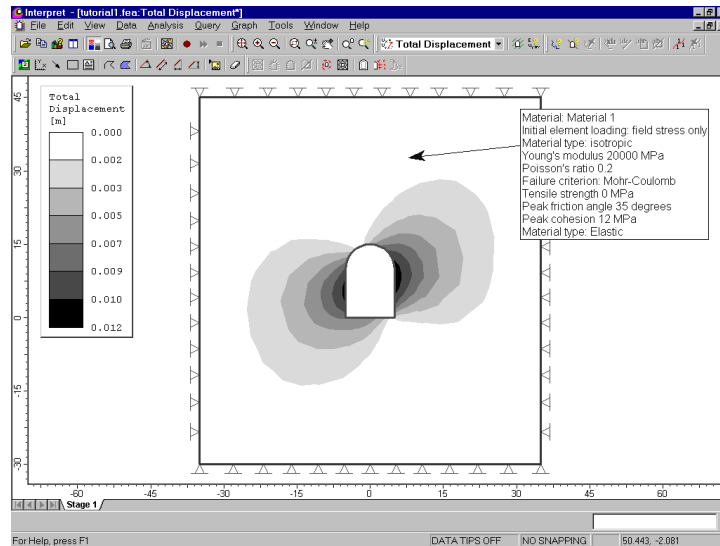

Figure 1-7: Auto-text and arrow added to view.
3. Now select OK. The text is added to the view, and your screen should look similar to Figure 1-7.